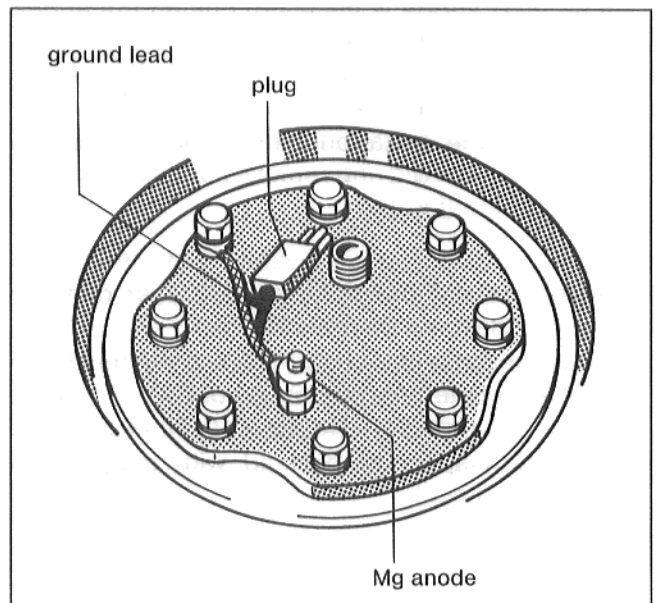

Fig. 9
- Connect the plug on the ground lead with the cable from the control panel (Fig. 9).